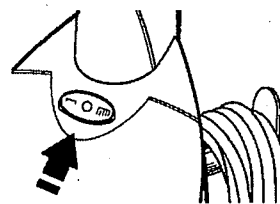

Figure 8
(See Figure 8.) Depress the Switch to the Carpet Pile symbol to turn the Motor and Brush Roll ON.
4. Now, press the Carpet Cleaning side of the ON/OFF Switch. (See Figure 8.)